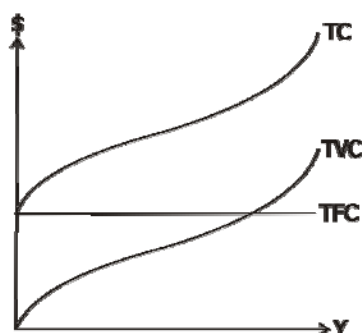

Figure 2.1 Total Costs
NOTE: All costs are usually computed as functions of output, i.e. costs depend on the level of output. This means that in any cost function or equation, cost is the dependent variable while output (Y) is the independent variable: $\text{cost} = f(Y)$. Thus graphs of cost curves are plotted using the money values of the Y-axis and the units of output on the X-axis as shown in Figure 2.1.